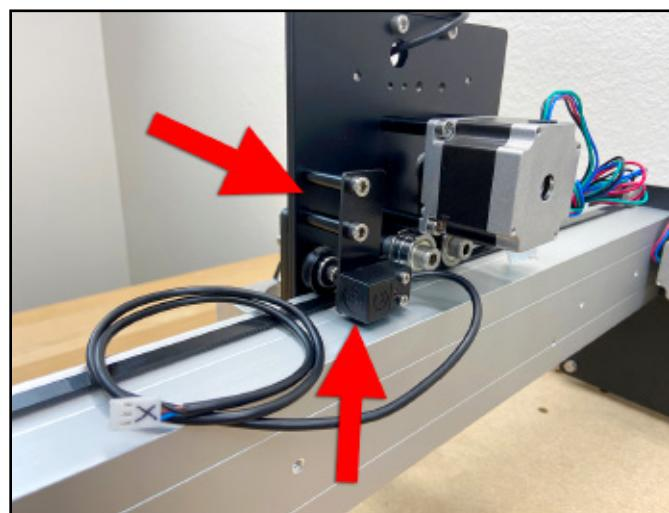

Figure 6-6
4. Use the 4mm hex key and two (2) M5x8mm socket head cap screws to install the mounting plate to the two 30mm standoffs at the rear of the Z-Plus. Ensure the proximity switch is on the outside of the switch plate and faces the Y2-rail. See **Figure 6-6**.
5. Label the X-Axis proximity switch cable connector with an "X" as shown in **Figure 6-6**.